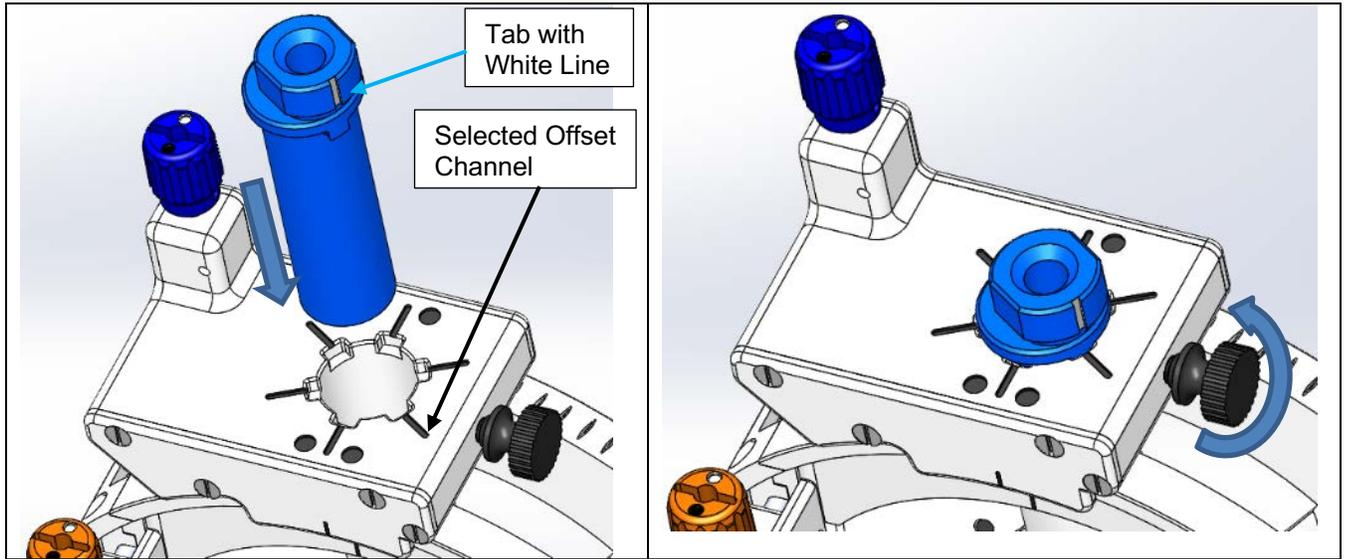

Figure 168: Offset Insertion Guide Inserted into the desired offset position on the SMARTFrame Array tower
5. Insert the OFFSET Insertion Guide so that the tab clicks into the slot that corresponds to the selected channel. **See Figure 168.**